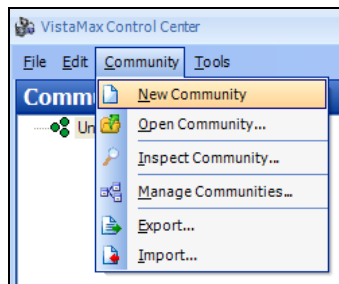

Figure 4-9. Community Menu on VMCC Menu Bar
1. To create a new community, click **Community | New Community** on the VMCC menu bar (Figure 4-9).